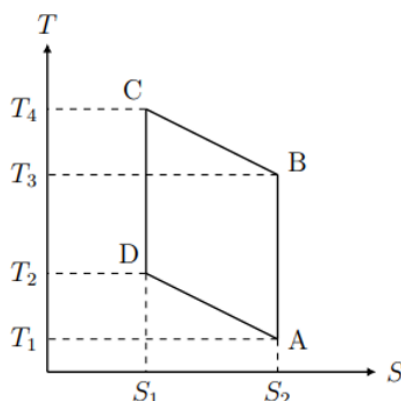

Figure 3:  $TS$  diagram of an apparatus' operational cycle. Important values are indicated.
Figure 3 shows the operational cycle of an apparatus on a  $TS$  diagram. The cycle has the shape of a parallelogram and can operate in both directions:  $A \rightarrow B \rightarrow C \rightarrow D \rightarrow A$  and  $D \rightarrow C \rightarrow B \rightarrow A \rightarrow D$ . The operation cycle includes a stage where heat  $Q_{\text{in}}$  is absorbed by the device and a stage when heat  $Q_{\text{out}}$  is rejected by the device.
- (a) What should the direction of the cycle in Figure 3 be if the device is supposed to work like an engine (i.e., produce useful work)?
- (c) COP is defined by the ratio  $\frac{\text{benefit}}{\text{cost}}$ —for example,  $\text{COP} \equiv \frac{Q_{\text{absorbed}}}{W}$  in the case of a refrigerator. Determine the COP of the cycle in Figure 3 if the direction is reversed from part (a).
- (d) The purpose of a heat pump is to remove the heat from a cold reservoir and add this heat to a hot reservoir. Calculate the COP if the device in Figure 3 is used as a heat pump. Compare the amount of external electrical energy needed to add 1 J of heat to the hot reservoir using this heat pump, and the amount of external electrical energy required to generate 1 J of heat by using a conventional resistive heating element.